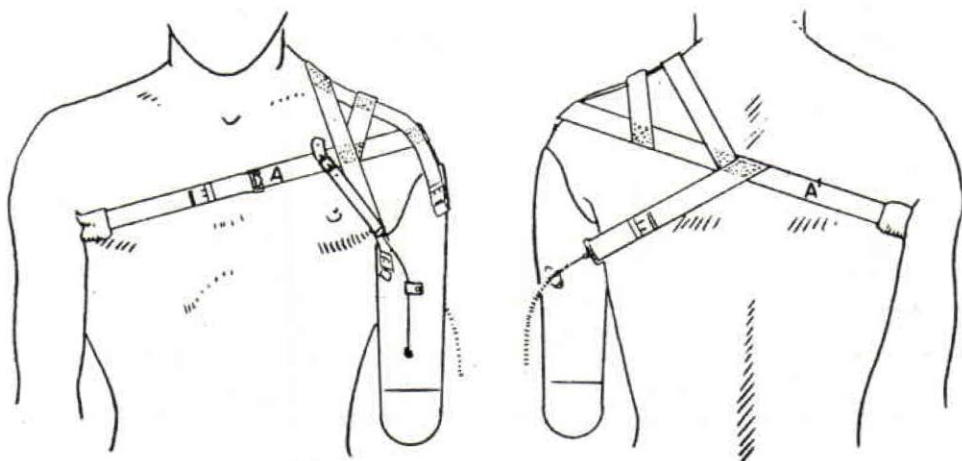

Figure 4. The socket is suspended from a webbing shoulder saddle.
2. Harness Application—The need to stabilize the prosthesis in order to provide function for an above-elbow amputee who was quite obese produced modifications of the standard type of harnessing, (Figures 4 and 5).